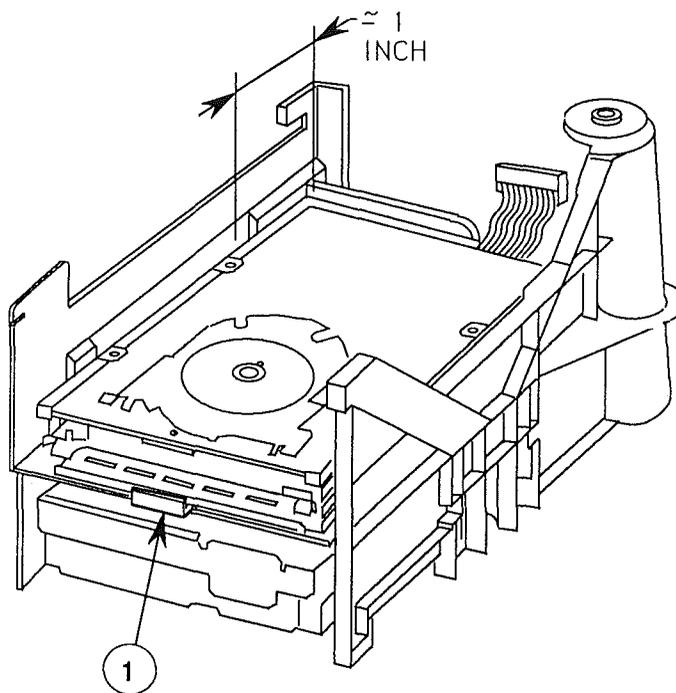

FIGURE 15
9. Turn over the carrier unit and gently push down on the latch (Figure 15, #1) that holds the front of the floppy disk drive.
4. Swing the floppy drive into the carrier so that it is parallel to the carrier. Then push the drive down toward the back of the carrier until you hear and see the latch (Figure 15, #1) click over the front top of the floppy disk drive.